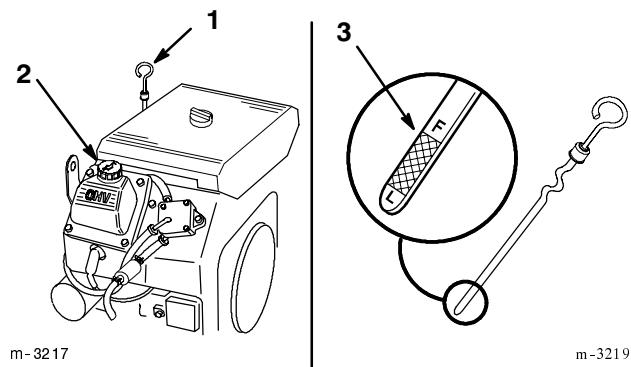

Figure 27
2. Clean around the oil dipstick (Fig. 27) so dirt cannot fall into the filler hole and damage the engine.
3. Pull the oil dipstick and wipe the metal end clean (Fig. 27).
4. Slide the oil dipstick fully into the filler tube. Pull the dipstick out and look at the metal end (Fig. 27). If oil level is low, slowly pour only enough oil into the filler tube to raise the level to the "FULL" mark.
5. Slowly pour approximately 80% of the specified amount of oil, page 31, into the filler cap (Fig. 27). Now check the oil level; refer to Checking Oil Level, page 31. Slowly add additional oil to bring to "FULL" mark on dipstick.